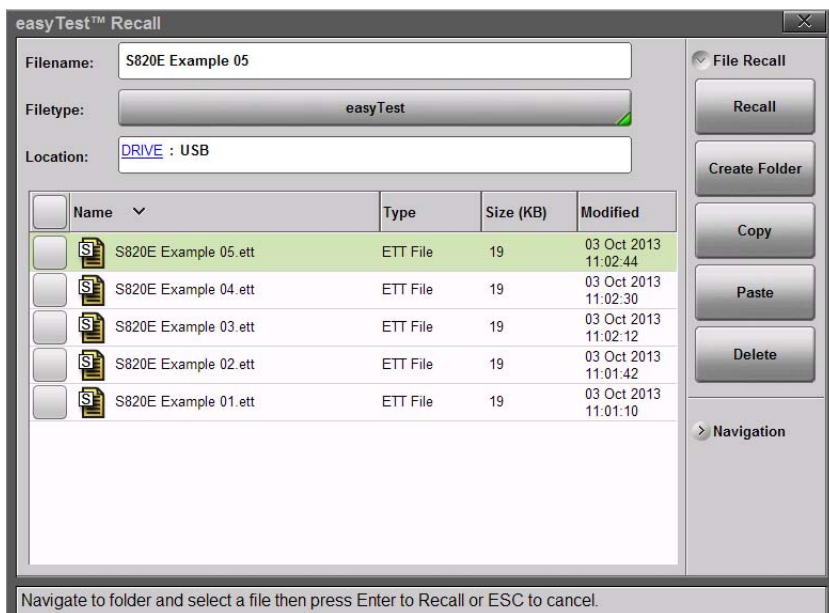

Figure 14-3. Recalling an easyTest File
4. Select the file on the USB Memory stick and press Recall or **Enter** (Figure 14-3). Alternatively, copy the file to internal memory and recall the file from that location. Immediately after the .ett file is recalled, the test sequence is executed.